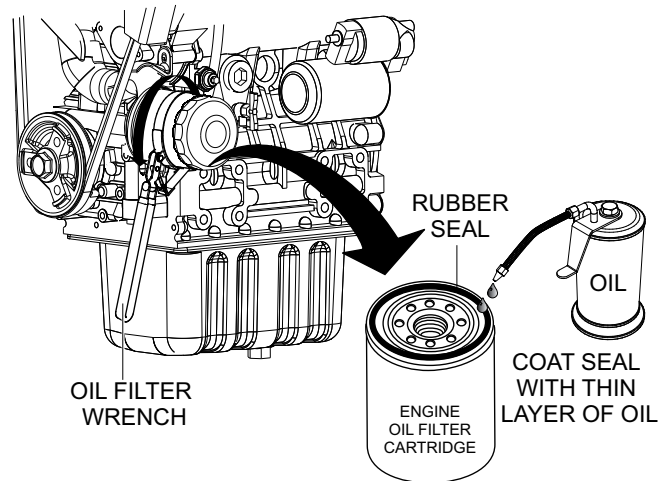

Figure 62. Engine Oil Filter Removal
- Using an oil filter wrench (Figure 62), remove engine oil filter.
- Coat the rubber seal (gasket) surface of oil filter (Figure 62) with clean 15W-40 engine oil.